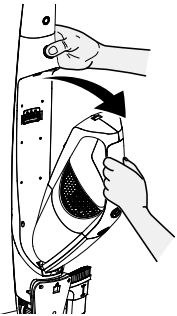

Fig.16
- Remove the handheld vacuum cleaner from the main body by pressing the release button and detaching it (Fig.16).